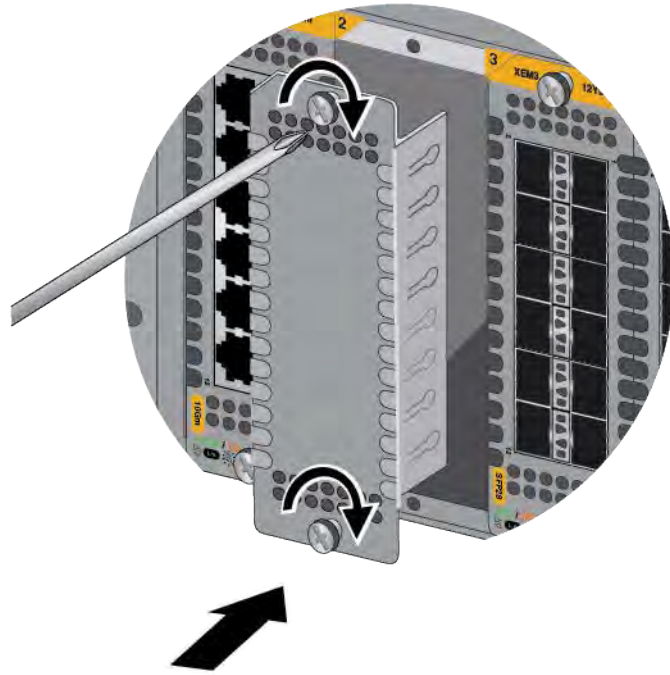

Figure 97. Installing a Blank Cover on a Module Slot
9. If you are not installing another module in the chassis slot, cover it with a blank cover. Refer to Figure 97.